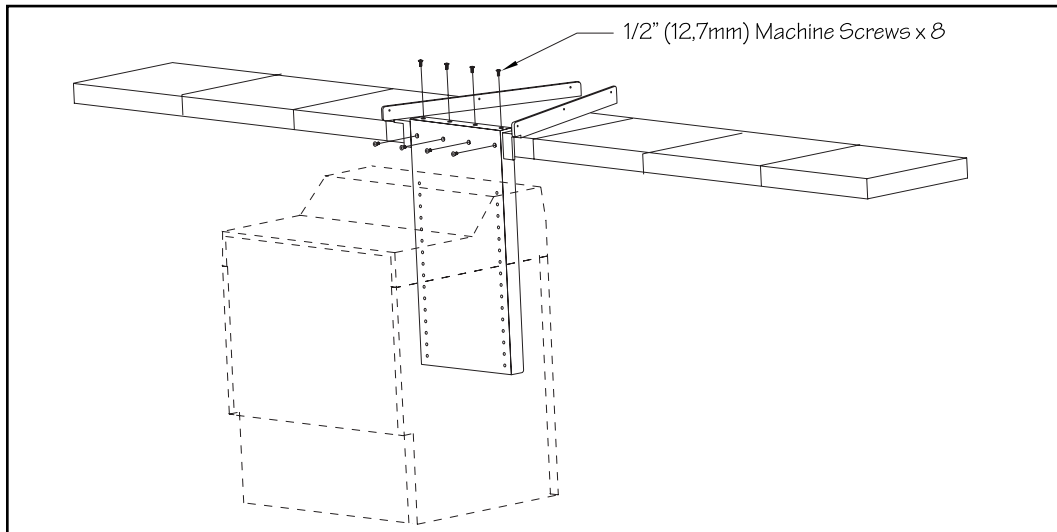

Fig. 9.3
9.3 This next step is best done with two people. Carefully lower the Fastlane Pro into the pool. Align the holes in the bracket with the holes in the hose cover tray. Use the provided 1/2" (12,7mm) screws to attach the top screws first and then the vertical screws next (total of 8 screws) (Fig 9.3).